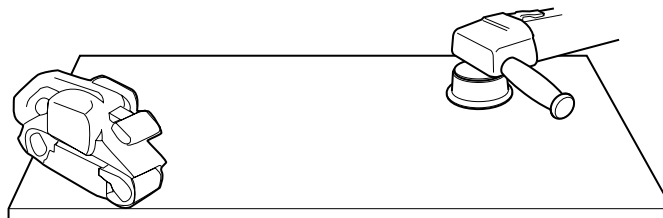

Figure 25
- Check the back of the sheet for smoothness, and belt-sand, if needed (see Figure 25).